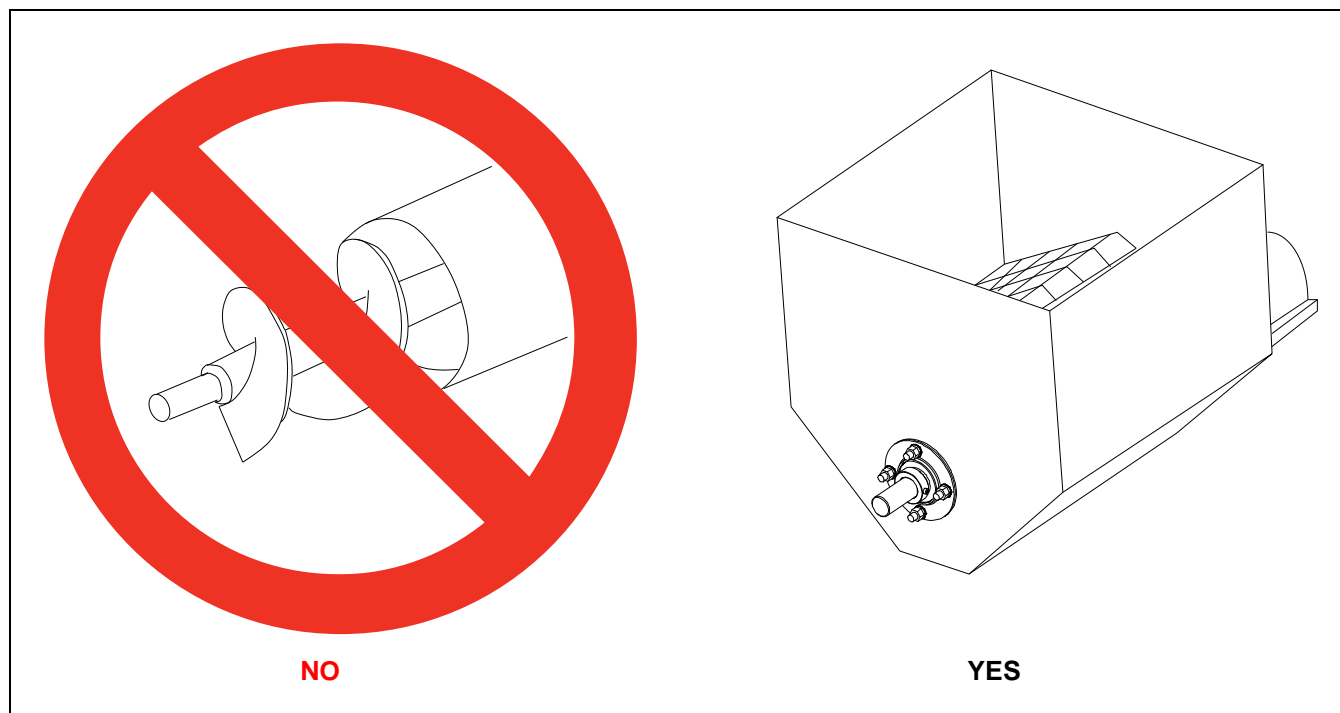

Figure 2A
1. Intake guard and hopper, providing all round enclosure of the auger and shaft. (See Figure 2A.)